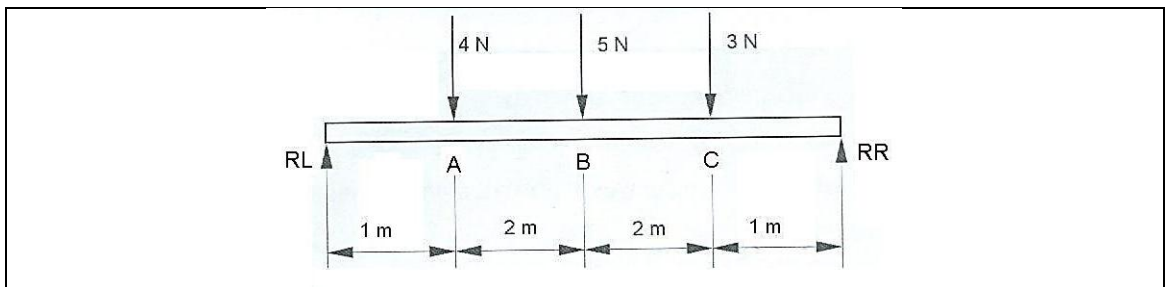

FIGURE 7.1
7.1 The beam is subjected to two point loads and is supported at both ends by RL and RR as indicated in FIGURE 7.1.